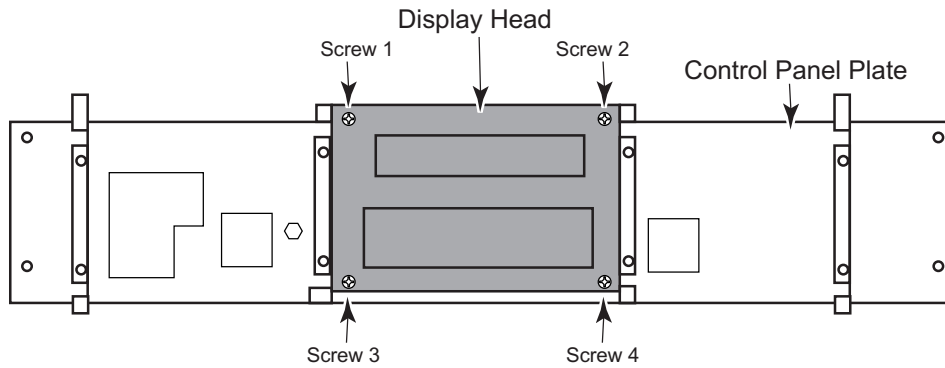

Figure 16C
6. **To remove the display head**, remove the four screws holding it to the control panel plate (see Figure 16C).